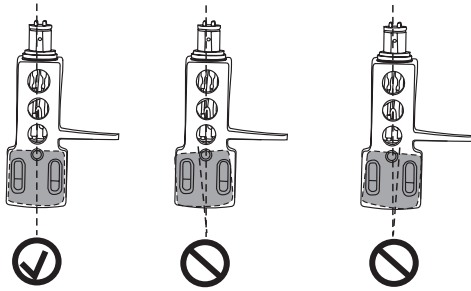

Fig. 11: Adjusting the azimuth
- 5 For optimized pick-up the overhang – the distance between the stylus and the axle of the turntable – should be set to 15 mm. Make sure that the system is centered (correct azimuth) and the screws are fixed (Fig. 11).